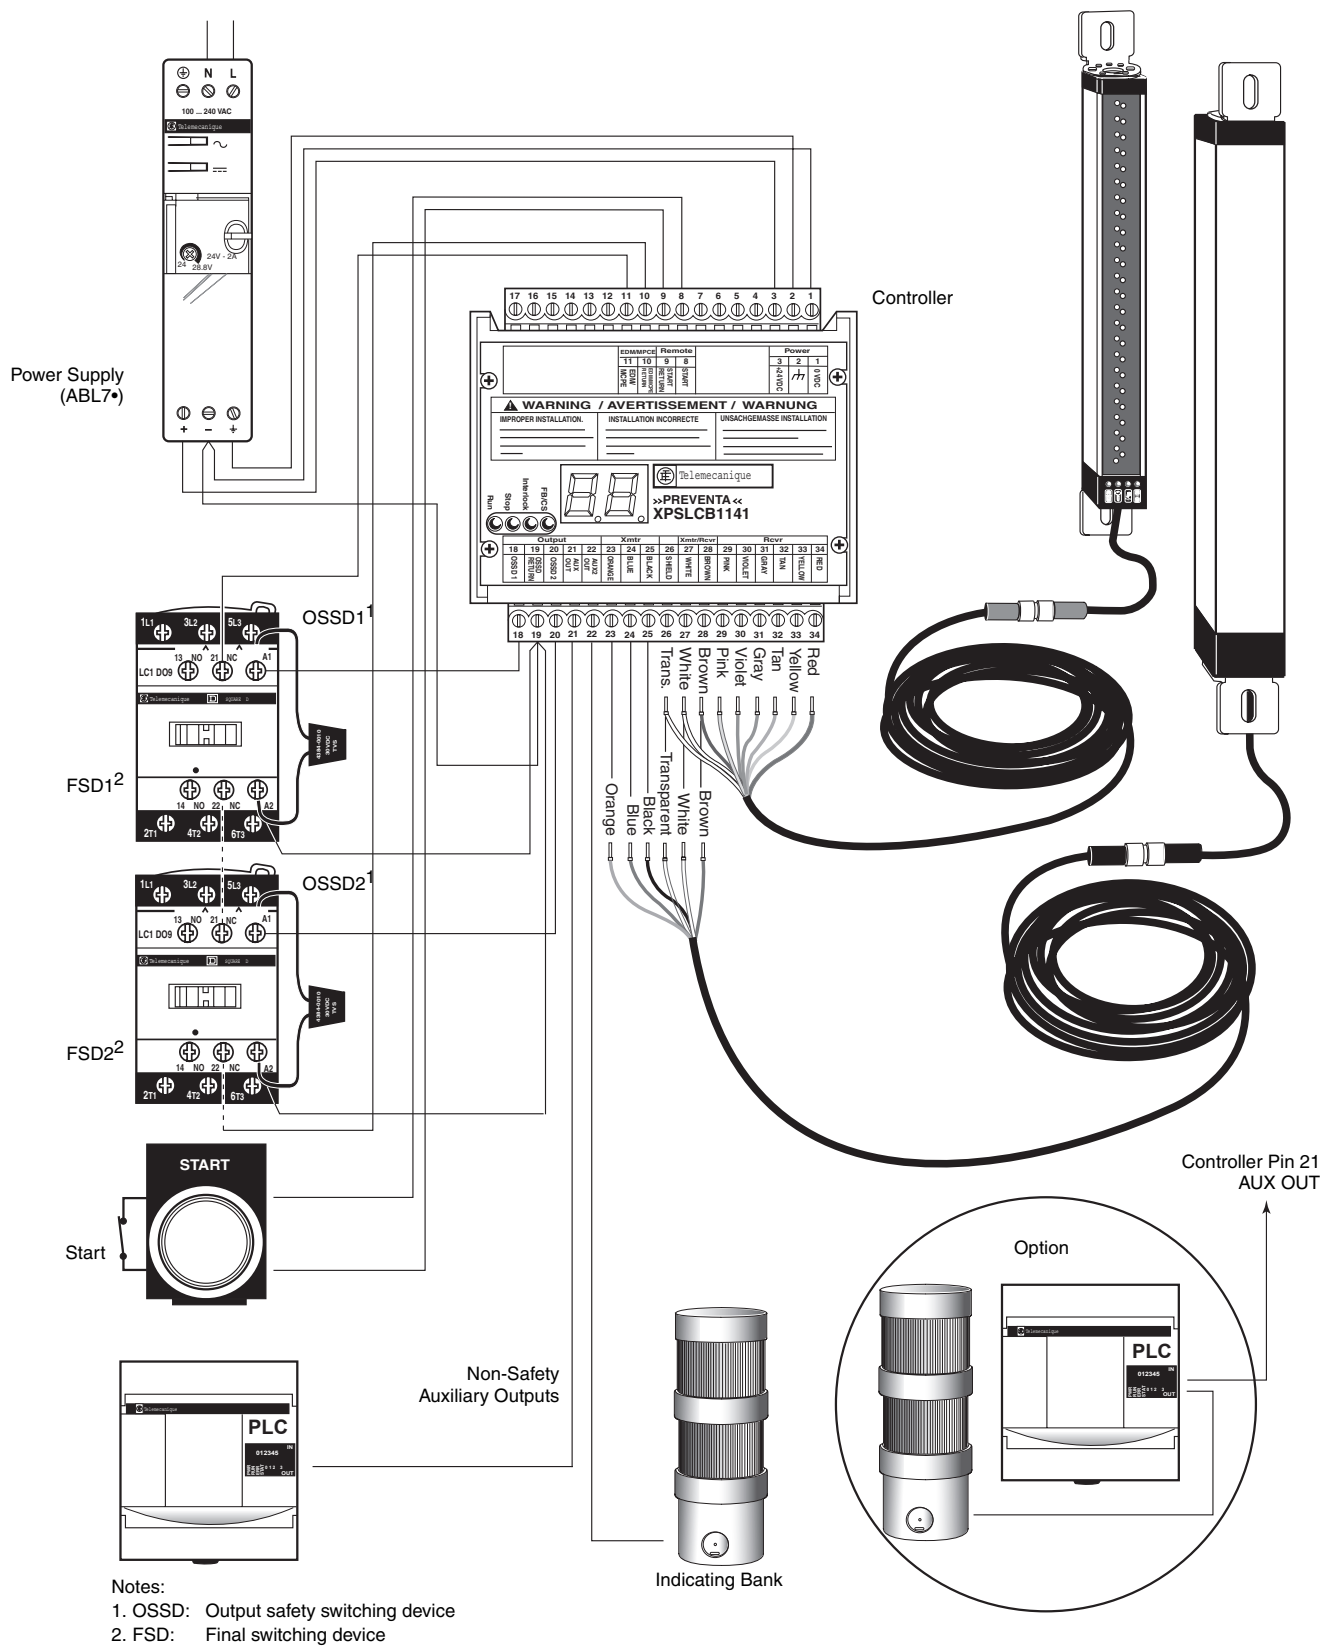

Figure 5: Wiring with Final Switching Devices
5. Wire the light curtain system as illustrated in Figure 5 on page 14. Refer to “Section 12: Connecting to the Machine Control Circuit” beginning on page 50 for complete wiring information.